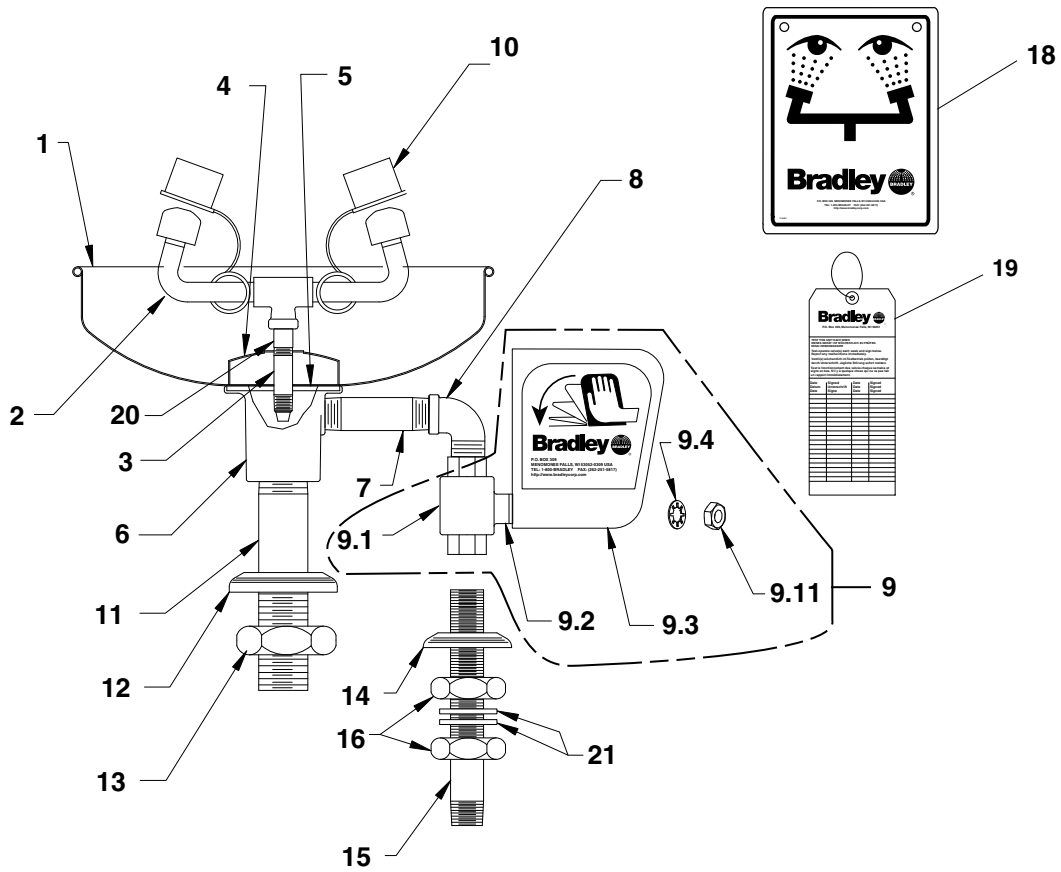

Figure 2
2. Assemble the eye wash components as shown in Figure 2 on page 4 and mount the eye wash to the deck (see Figure 2).